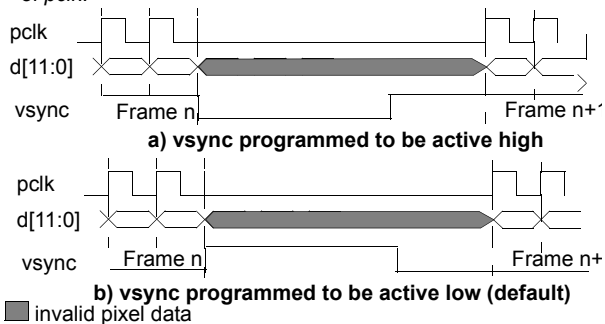

Figure 42. vsync in Pulse Mode
- Pulse mode should be used when the pixel clock, *pclk*, is programmed to operate in *data ready mode*. In pulse mode the *vsync* output pin will produce a pulse at the end of each frame. The width of the pulse will be a minimum of four *hclk* cycles and its polarity can be programmed as shown in Figure 42. The *vsync* level is always synchronized to the active edge of *pclk*.